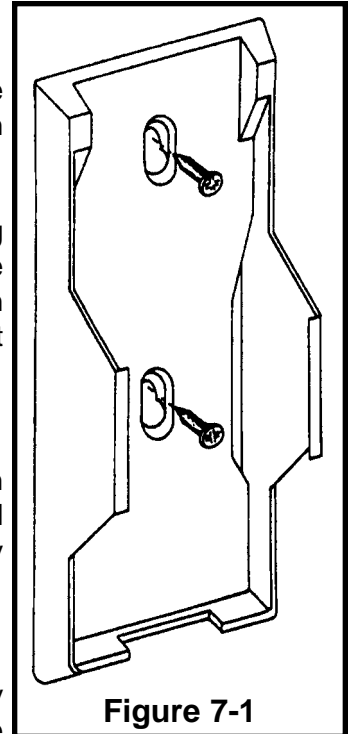

Figure 7-1
- Select a convenient place for your phone. Place the telephone cradle against the wall and mark the center of the upper lobes of the two mounting holes as shown in Figure 7-1.